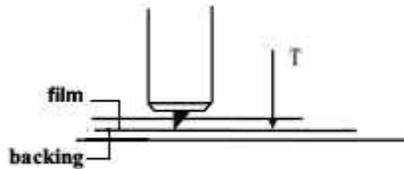

Figure 2-5
- ④ Extend the tip of blade by the stretch required for the desired cutting media (T<5mils) as (Figure 2-5).